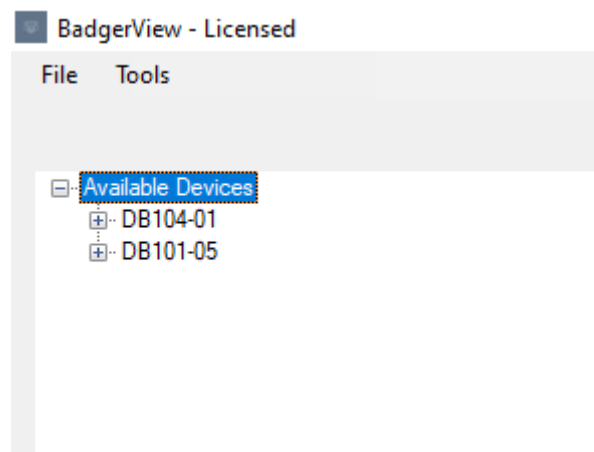
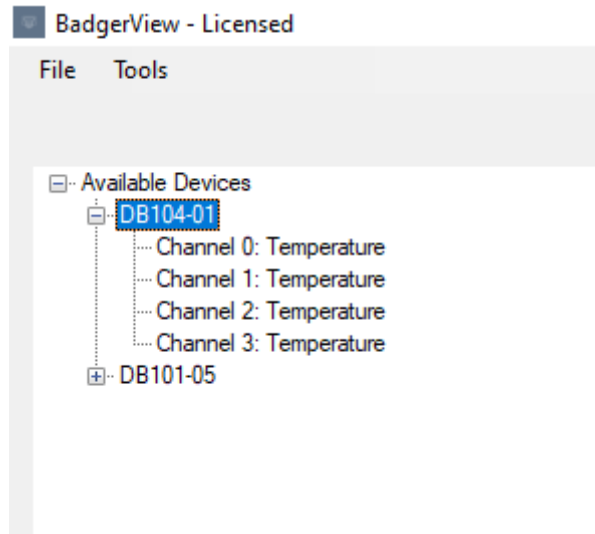

Figure 8: Device tree view with two devices
Figure 9: DB104-01 expanded to show available data channels
Figure 8 shows the device tree view with two devices located. In this instance, a DB101-05 Ethernet thermocouple logger and DB104-01 Wifi thermocouple logger have been identified. Both devices are displayed in summary mode, with the available data channels hidden. Clicking the + symbol to the left of the device expands the listing to show data channels available, as shown in Figure 9.
1. Select the + symbol next to the desired device to display available channels for measurement, as shown in Figure 9